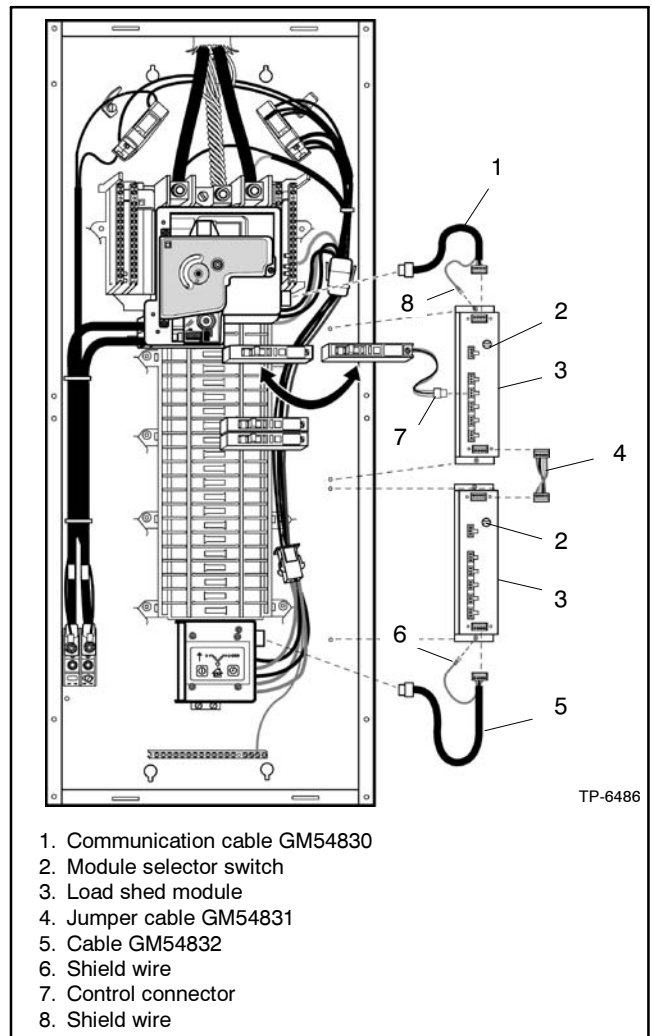
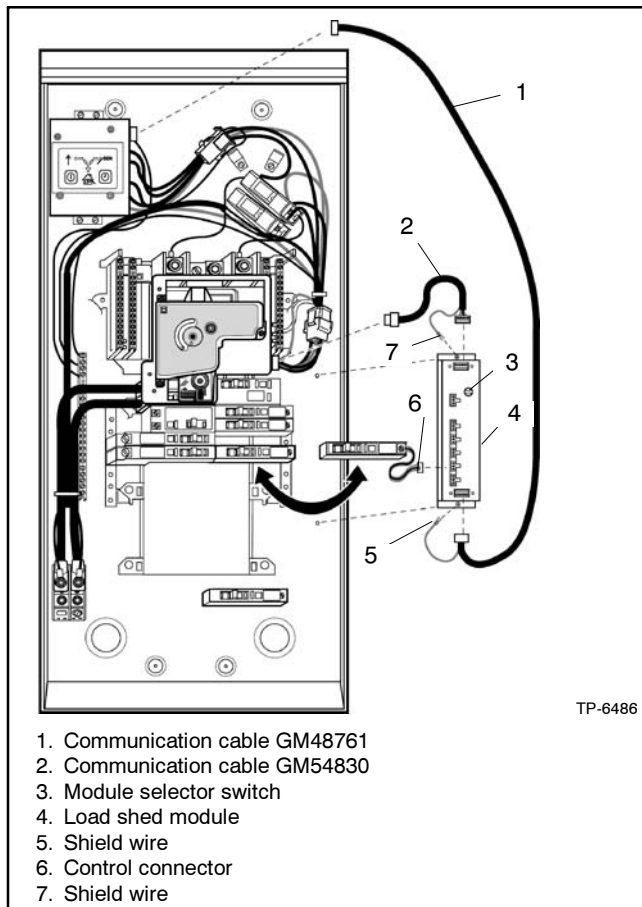

Figure 2-52 Load Shed Module Installation, Type 1 Enclosures
Figure 2-53 Load Shed Module Installation, Type 3R Enclosures
- Place the load shed module in the load center as shown in Figure 2-52 or Figure 2-53 and loosely secure it with the two captive screws provided.
- Referring to Figure 2-52 or Figure 2-53, install the communication cables provided with the load shed module:
- Slide the spade connector of the shield wire (Figure 2-52, item 6, or Figure 2-53, item 5) for cable GM54832 (Type 1) or cable GM48761 (Type 3R) between the mounting screw of the load shed module and the module housing as shown in Figure 2-52 or Figure 2-53. Secure the mounting screw, taking care not to crush the shield wire connector. Connect cable GM54832 (Type 1) or cable GM48761 (Type 3R) to the bottom connector of the load shed module and to terminal TB1 on the generator control unit.
- b. Slide the spade connector of the shield wire (Figure 2-52, item 8, or Figure 2-53, item 7) for communication cable GM54830 between the mounting screw of the load shed module and the module housing. Secure the mounting screw, taking care not to crush the shield wire connector. Connect cable GM54830 to the top terminal of the load shed module and to terminal J3 on the automatic transfer mechanism.
1. Before installing the circuit breaker, turn the circuit breaker handle to the OFF (O) position.
3. Plug the remote control circuit breaker control connectors into the load shed module (see item 7 in Figure 2-52 or Figure 2-53).